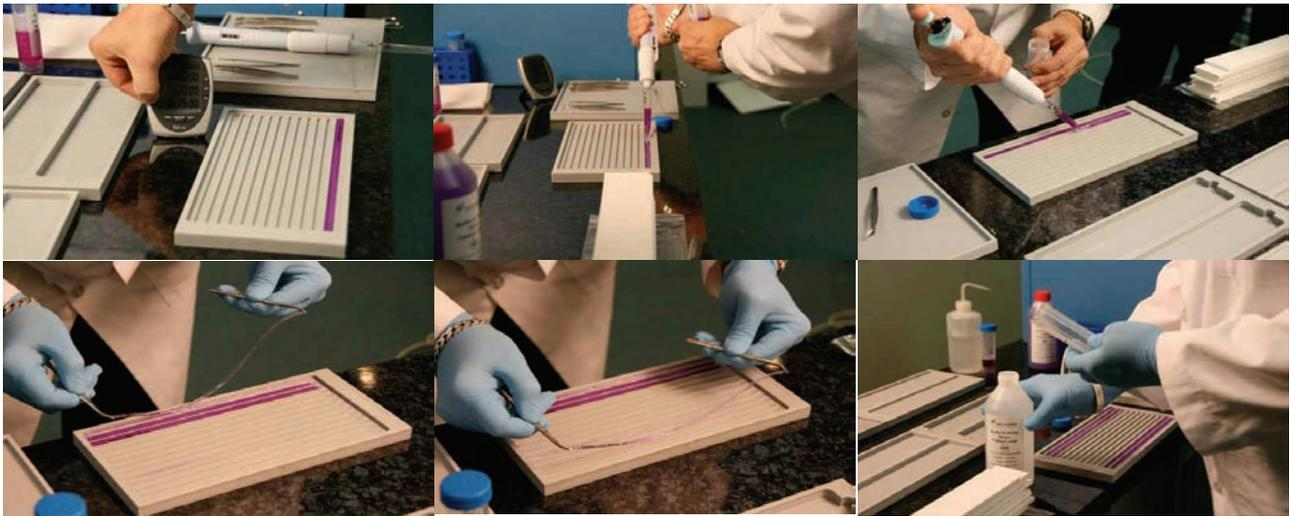

Fig. 5.2: Equilibration of the IPG-strips in 6 mL equilibration buffer.
2. Equilibrate each IPG-strip (gel-side up) in 6 mL solution in a **gel**company equilibrator (cat# 1003-04; fig. 5.2) on an orbital shaker with 30 rev/min: